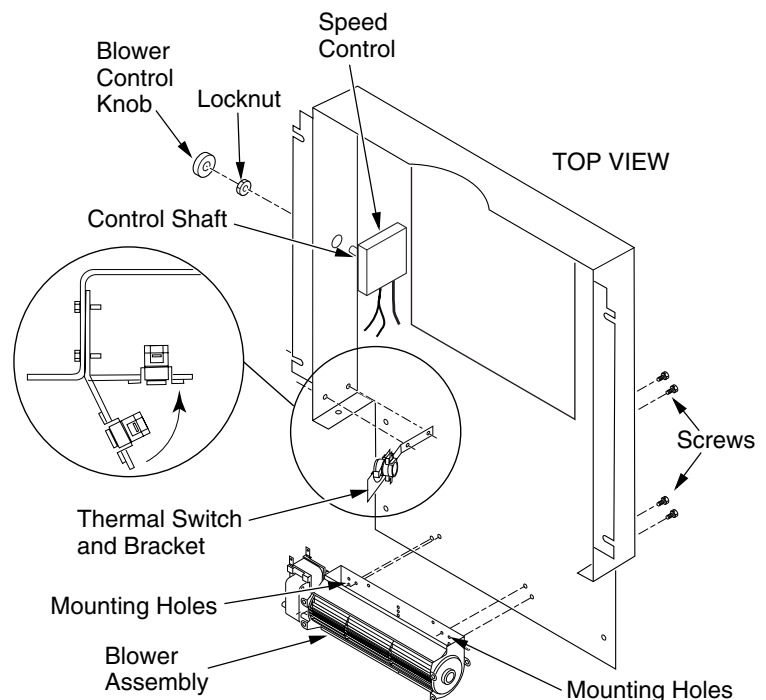

Figure 17 - Blower Assembly, Speed Control, and Thermal Switch Locations
3. Align the holes in the top mounting tabs of blower with the holes in wall of rear cover. Using the 4 screws provided, mount blower and tighten screws securely (see Figure 17).
4. **Thermostat Blower Only:** Attach thermal switch and bracket to inside rear cover wall with two hex head screws provided as shown in Figure 17. After securing bracket to rear cover, carefully bend along existing bend line on bracket to almost a 90° angle (see Figure 17). This will allow thermal switch to be positioned against stove rear wall and sense temperature when in operating mode.
- Place speed control on left inside of rear cover and push the plastic control shaft through opening (see Figure 17, page 7).